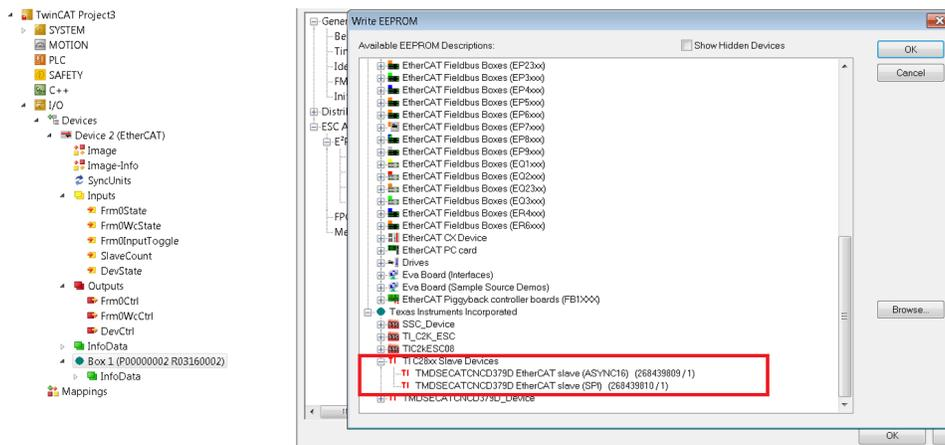

Figure 27. Program EEPROM
- Program the EEPROM with the ESI files, as shown in Figure 27. Choose the appropriate ESI file according to your PDI selection.